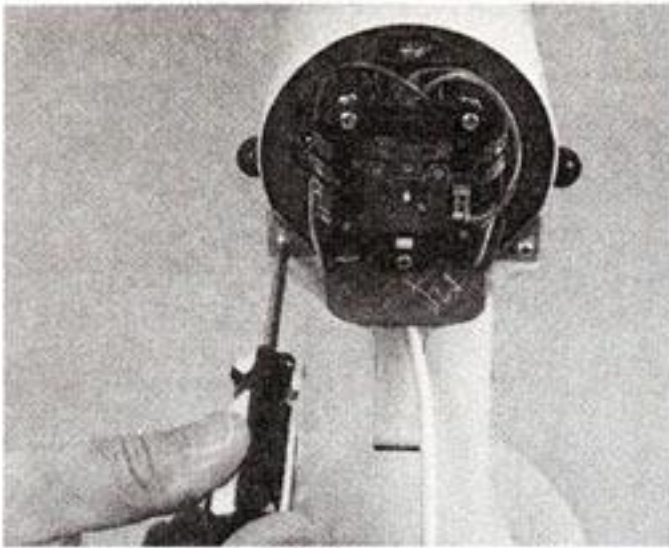

Fig. 83
- G. Place trim band (Fig. 83) on the gear case and motor housing and with the two #6-32 x 3/16" binding head screws, fasten it to the end of the housing. Tuck in all the wire leads and place the end cover on end of machine and secure it with the #6-32 x 3/8" oval head screw (Fig. 84).